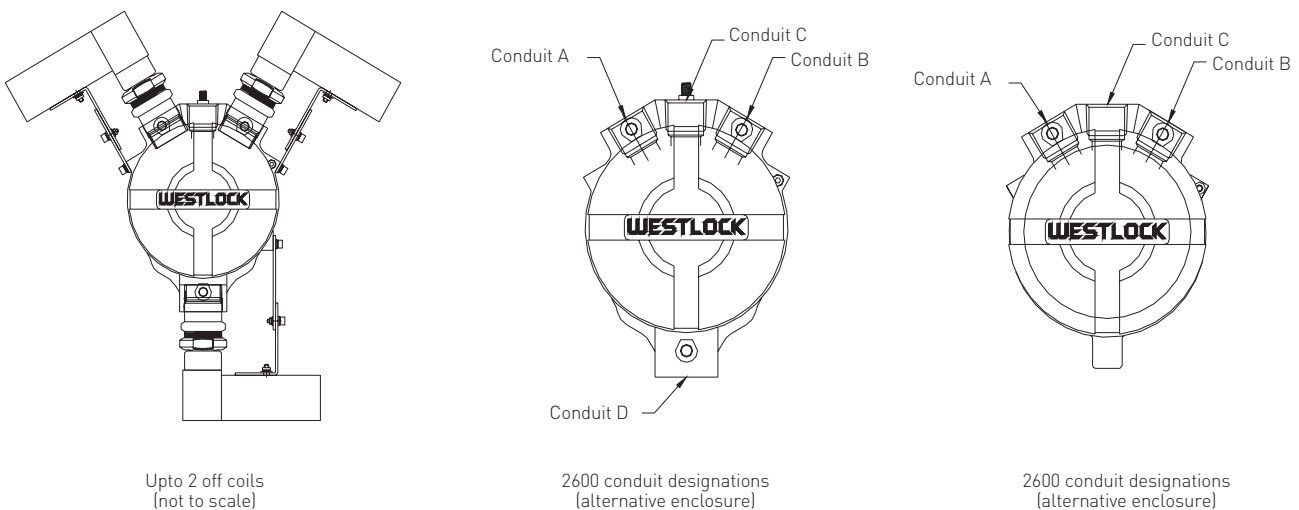

Figure 4
3.3 The 2600 control monitor housing can offer up to three of the following conduit entries; M20 x 1.5p, M25 x 1.5p, 1/2"-14 NPT or 3/4"-14 NPT. These entries are detailed on the product I.D label found on the product housing. Please see Figure 4 for conduit positions.